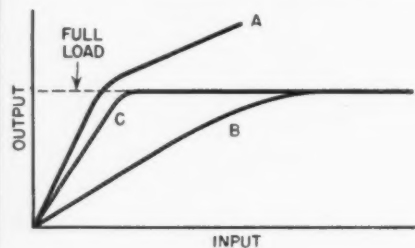
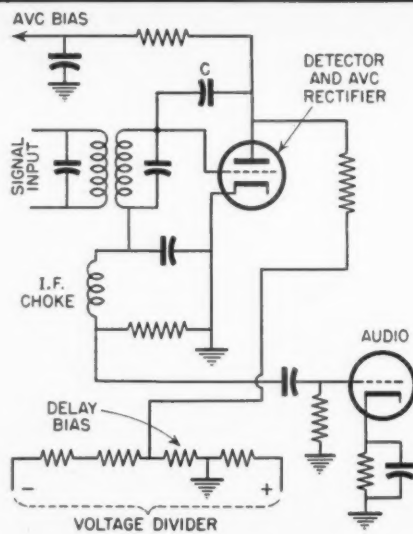
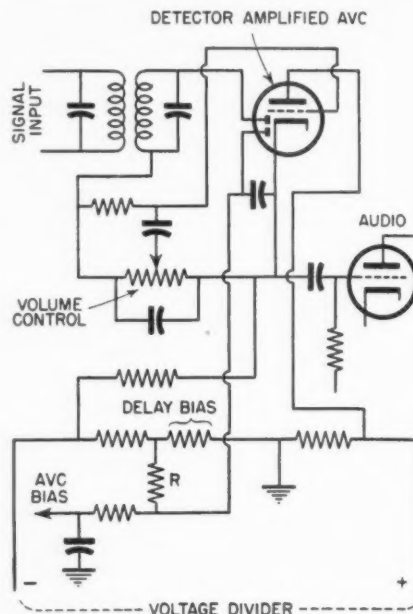

Figure 3
Figure 4
Figure 5
Fig. 3 shows the overload on input-output characteristics of a radio receiver employing a. v. c. from a diode rectifier compared to a receiver with no a.v.c. Curve A of Fig. 3 illustrates the overload characteristic of a receiver without a.v.c. and set for maximum sensitivity. If a.v.c. is applied, increases in incident signal carrier will tend to reduce the receiver sensitivity in proportion to the strength of the carrier. This is shown by curve B of Fig. 3. As a result the output will not rise as fast as that of the receiver with no a.v.c.
a.v.c. This circuit which is illustrated in Fig. 4 prevents a.v.c. from acting until a definite input is achieved and permitting it to act at all greater inputs. The characteristic of such a circuit is shown by curve C of Fig. 3.
In the circuit of Fig. 4, a triode is used for detector and a-v-c rectifier. The grid-cathode circuit of the triode functions as the detector and the plate-cathode circuit of the triode functions as a-v-c rectifier fed by coupling capacitor C. A sufficient negative delay bias is used in the rectifier circuit to permit fully loading the receiver before a-v-c action starts. Of course a single diode may be and has been used for both a-v-c rectifier and detector in common, but improved performance results if separate diode circuits are used. This is particularly true if delayed a.v.c. is used.
shown in Fig. 3. This has been overcome by the use of amplified a.v.c. A circuit employing amplified a.v.c. and using a double diode triode for the purpose is illustrated in Fig. 5. With such a circuit the input required to overload the a-v-c system is increased by an amount equal to the amplification of the triode. In Fig. 5, the diode detector circuit is conventional. The grid of the triode is fed from the detector load circuit through an isolating resistor and resistor R is the load circuit of the a-v-c rectifier which feeds the a.v.c. bias back to the amplifier grids.